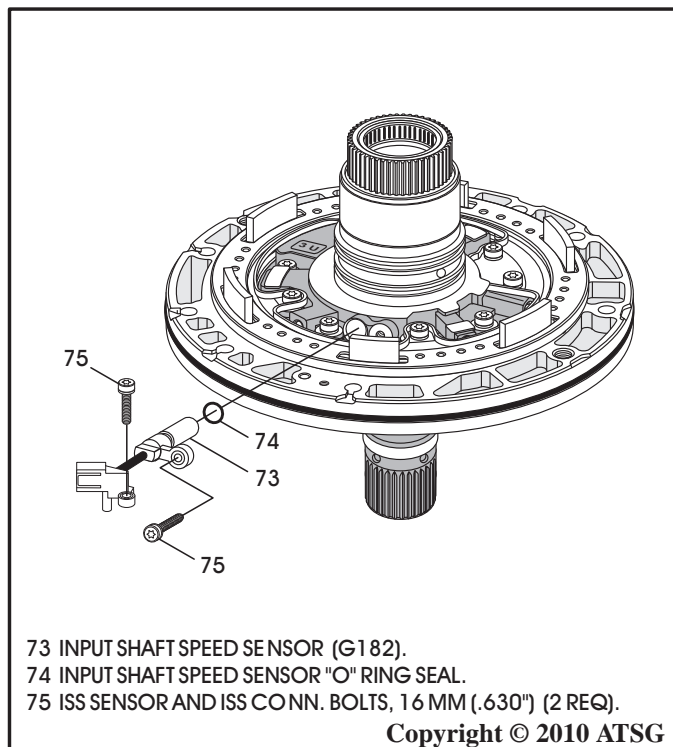

Figure 164
17. Install the turbine shaft speed sensor into the pump cover, as shown in Figure 164, install the retaining bolt.
18. Place the yellow connector into the cavity in the pump body, as shown in Figure 164, install the retaining bolt.